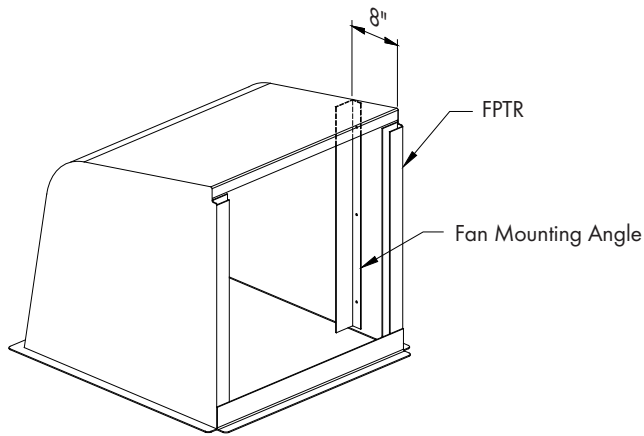

Figure 9
With FPTR opening facing you, measure 8" back from inside of FPTR. Place one angle piece against wall of FPTR, keeping 1 1/2" side of angle against wall and the 3" side facing out. *See Figure 9.* Secure angle piece to FPTR using (3) Bolts [C] and Nylock Nuts [E]. Repeat for opposite side.